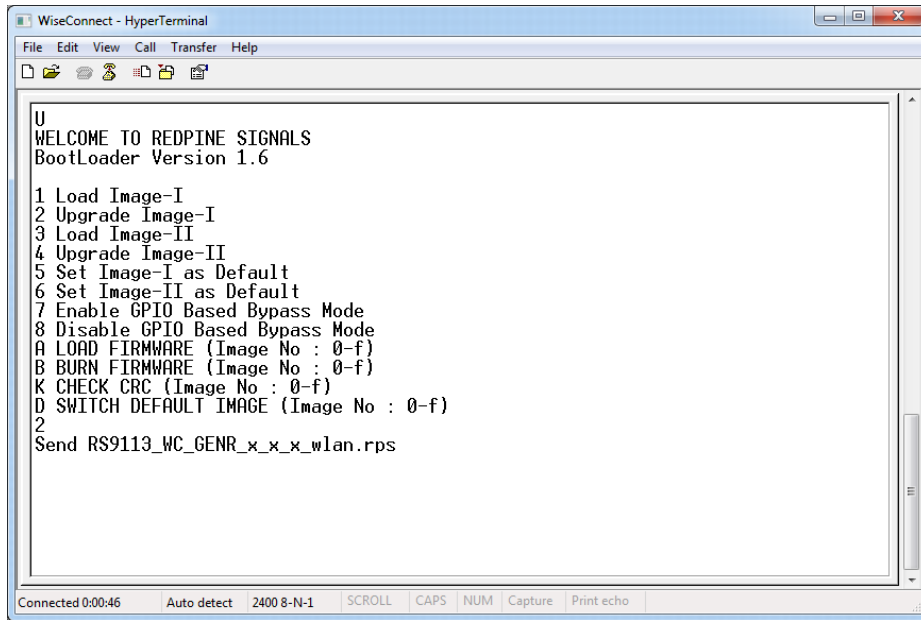

Figure 21: RS9113-WiSeConnect Module Image – I Firmware Upgrade File Prompt Message
- Follow the steps mentioned in Load Image – I to load the firmware from flash, select Option 1 as mentioned in figure 21.